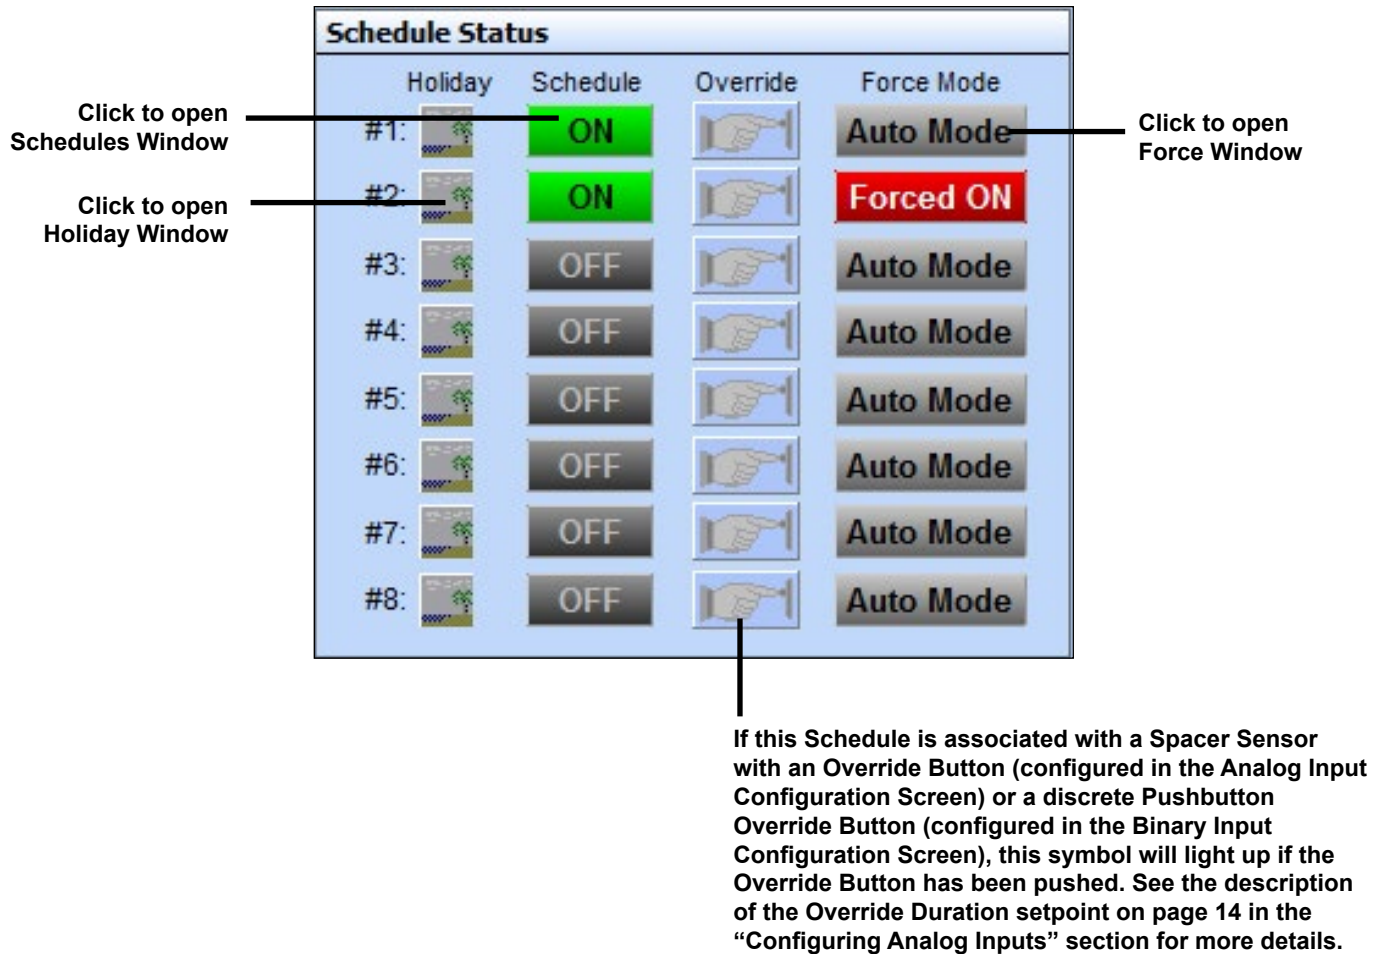
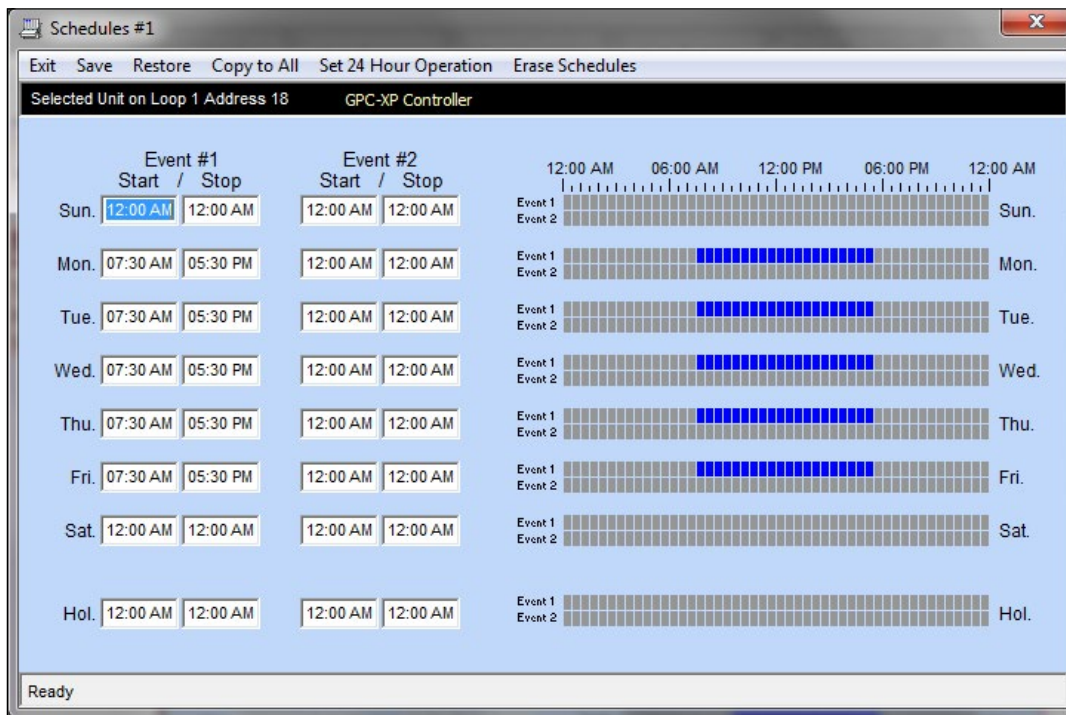
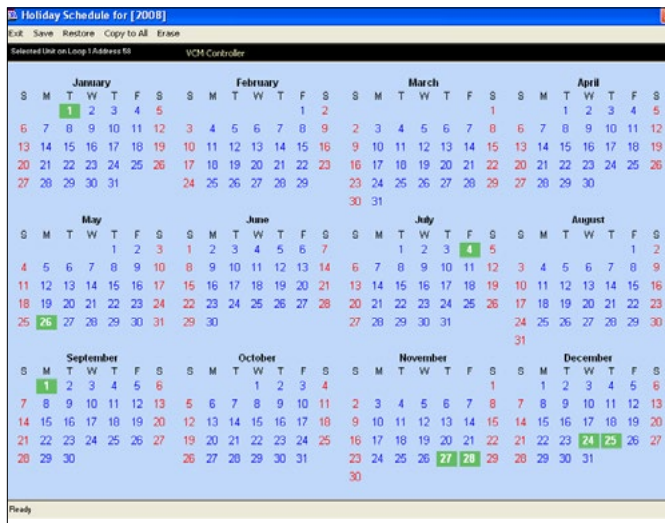
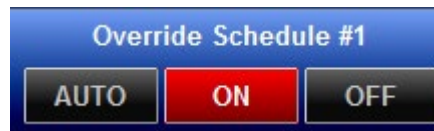

Figure 73: Schedule Status Window
Figure 74: Schedule #1 Configuration #1 Window
Figure 78: Holiday Schedule Window
Figure 79: Override Schedule
The *Schedule Status Window* is located in the bottom left of the *GPC-XP Controller Status Screen* (Figure 8, page 11) and allows (8) Schedules and (8) associated Holiday Schedules, Overrides, and Force Mode. See Figure 73 below for the *Schedule Status Window* components and summary and the pages that follow for details.
Click the **<Schedule>** button in the *Schedules Status Window* (Figure 73, page 35) to open the *Schedule Configuration Window* (Figure 74 below). You can configure up to (8) separate schedules for various uses on the GPC-XP Controller. These Schedules are (7) day, (2) event per day Schedules.
To access the controller's Holiday scheduling, *click* the **<Holidays>** button in the *Schedules Status Window* (Figure 73, page 35). The *Holiday Schedule Window* will appear. See Figure 78 below.
To override a schedule, *click* on the **<Force Modes>** button next to the Schedule you wish to override from the *Schedules Status Window* (Figure 73, page 35). See Figure 79 below.